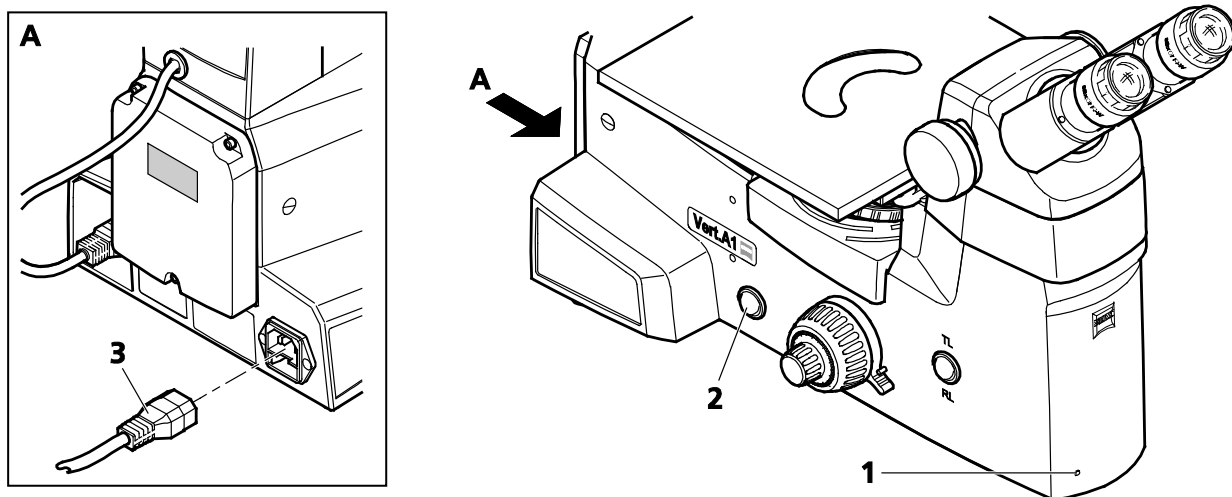

Fig. 3-24 Connecting and Switching on the Microscope
- Plug the power supply cable (Fig. 3-24/3) into the socket at the back of the microscope and connect the microscope to the power supply system.
- Switch the microscope on, using the ON / OFF switch (Fig. 3-24/2) located on the left-hand side of the instrument.
The blue light (Fig. 3-24/1) of the power indicator signals that the microscope is ready for operation.